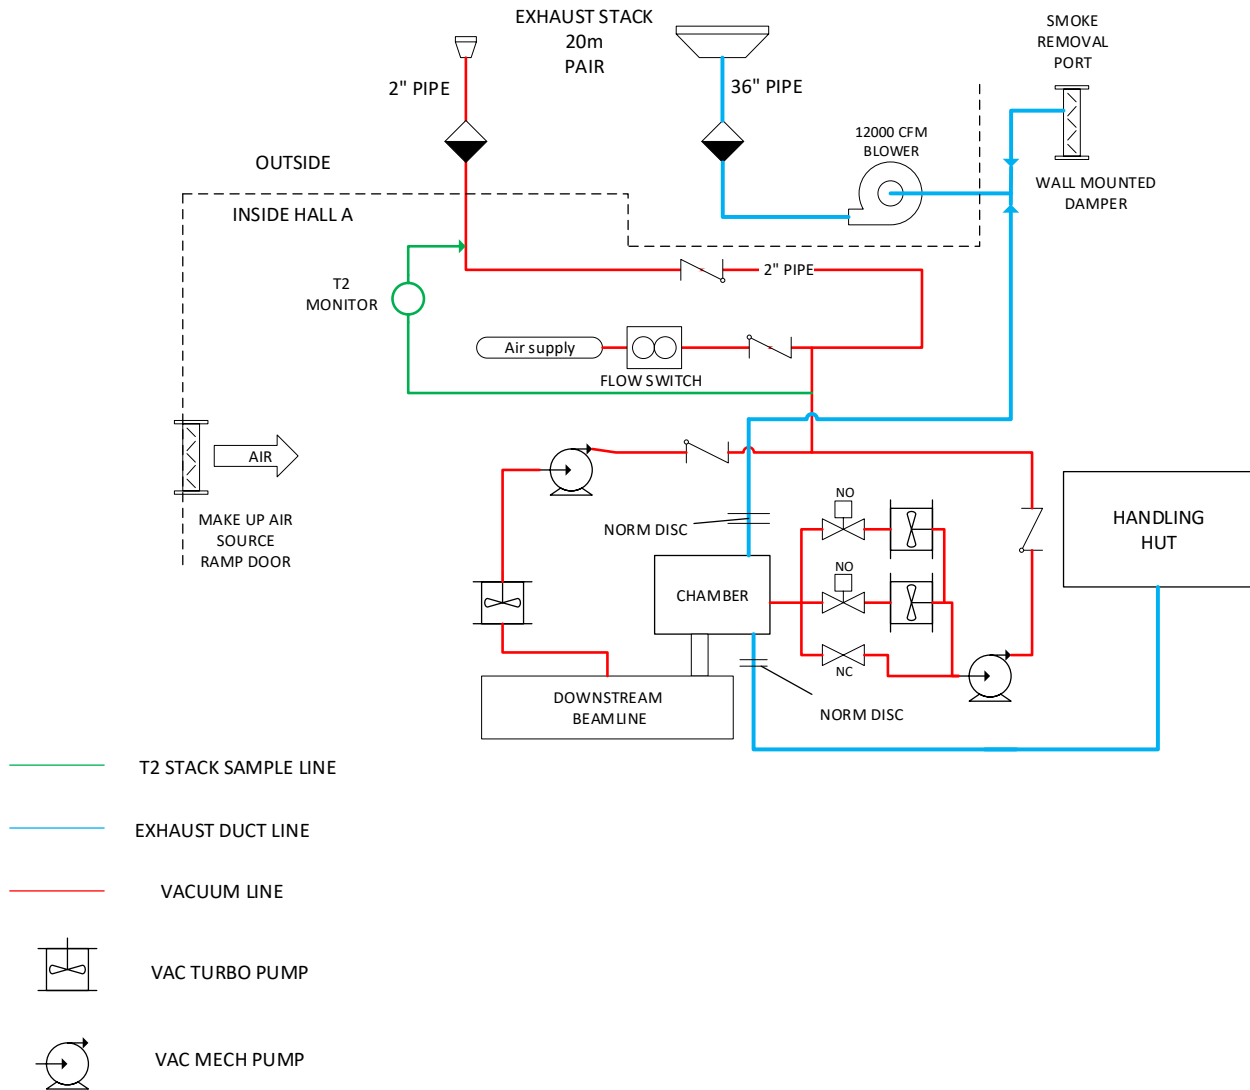

Figure 4: Vacuum and exhaust system schematic
The vacuum and exhaust system schematic is shown in Figure 4 below. Note that the scattering chamber vacuum is isolated from the upstream beamline vacuum by a beryllium foil window. The window is made from beryllium (99.8%) by Materion Brush Inc. with the following properties.
The vacuum pump exhaust is ducted through the normal hydrogen target vent system. The normal termination located behind the counting house has been extended to the Hall A dome and connected to the 2 inch stack (runs in parallel to the 36 inch main stack). This line shall be purged by air at a rate of at least 1-2 cfm. The vacuum exhaust system is shown in red in the above figure. This exhaust stream is continuously purged and sampled by a dedicated monitor (green circuit). The flow switch in Figure 4 triggers a FSD when the purger is in fault condition.
- Canberra TAM 100D. This system is independent from the exhaust and vacuum system shown in Figure 4 and is therefore not shown.
- Technical Associates STG-7L4. This is shown schematically in Figure 4 as the green line.